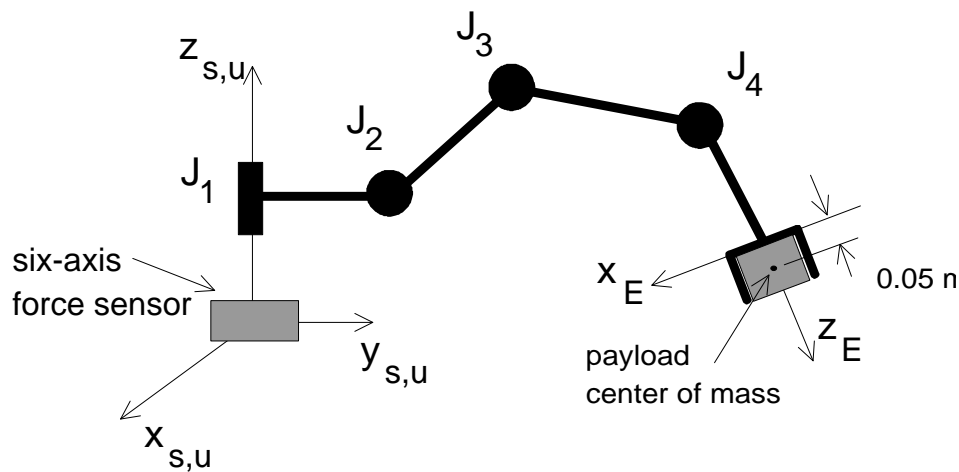

Fig. 4
- b. Fig.4 shows a 4-axis robot with all rotational joints. The first joint rotates about a vertical axis while the next three joints rotate about horizontal axes parallel to the xy plane of Frame U. Frame E is attached to the robot end-effector. A six axis force-torque sensor provides 3 force and 3 torque readings along and about the x, y, and z axes of the sensor frame S. Frame S is coincident to the fixed frame of reference U. At the following stationary configuration: